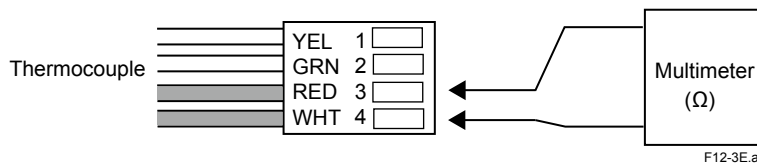

Figure 12.3
- (3) Next, check the resistance of the thermocouple from the probe. Use a multimeter to measure the thermocouple resistance between terminal 3 (red cable connected) and terminal 4 (white cable connected) as indicated in Figure 12.3.